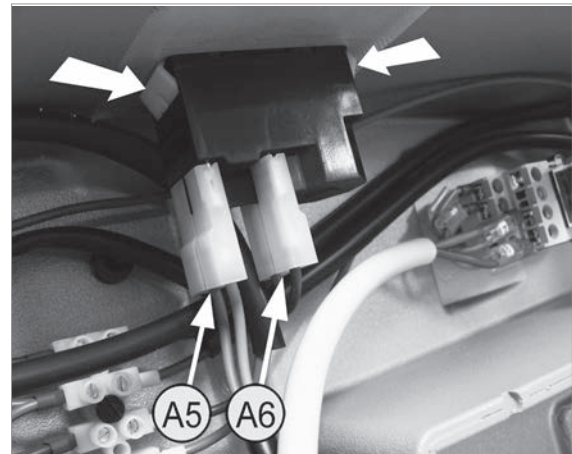

Fig.67
- 2) Disconnect the 4 connectors (A5) (A6) from the switch, observing their position carefully (Fig.67).